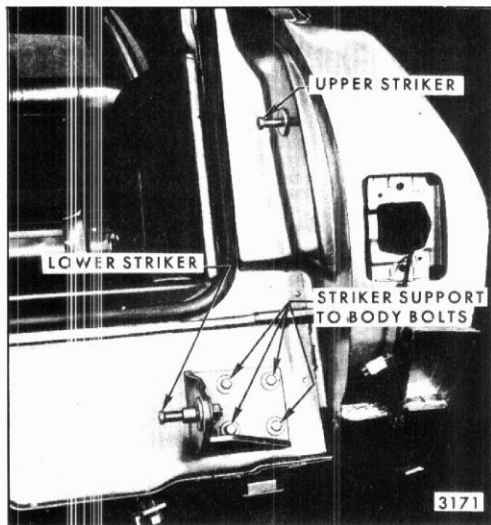

Fig. 9-30-Dual Acting Tail Gate Right Upper and Lower Striker Assemblies
1. Mark position of striker on back body pillar (Figure 9-30).
2. Scribe (mark) position of striker support on body and remove support (Figure 9-30).